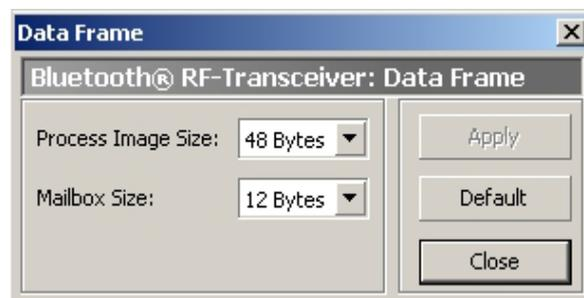

Figure 4: Data structure
- Enter (if not already set) a process image size of 48 bytes and a mailbox size of 12 bytes (see Figure 4).